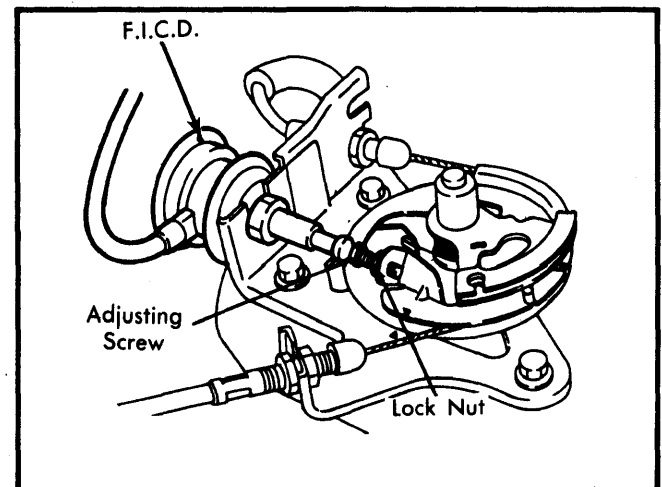

Fig. 3 Fast Idle Control Device
3) With engine idling and air conditioning turned on (if so equipped), set high idle speed. Locate Fast Idle Control Device (F.I.C.D.) diaphragm. Turn adjusting screw on accelerator drum until fast idle speed is to specification. See Fig. 3.